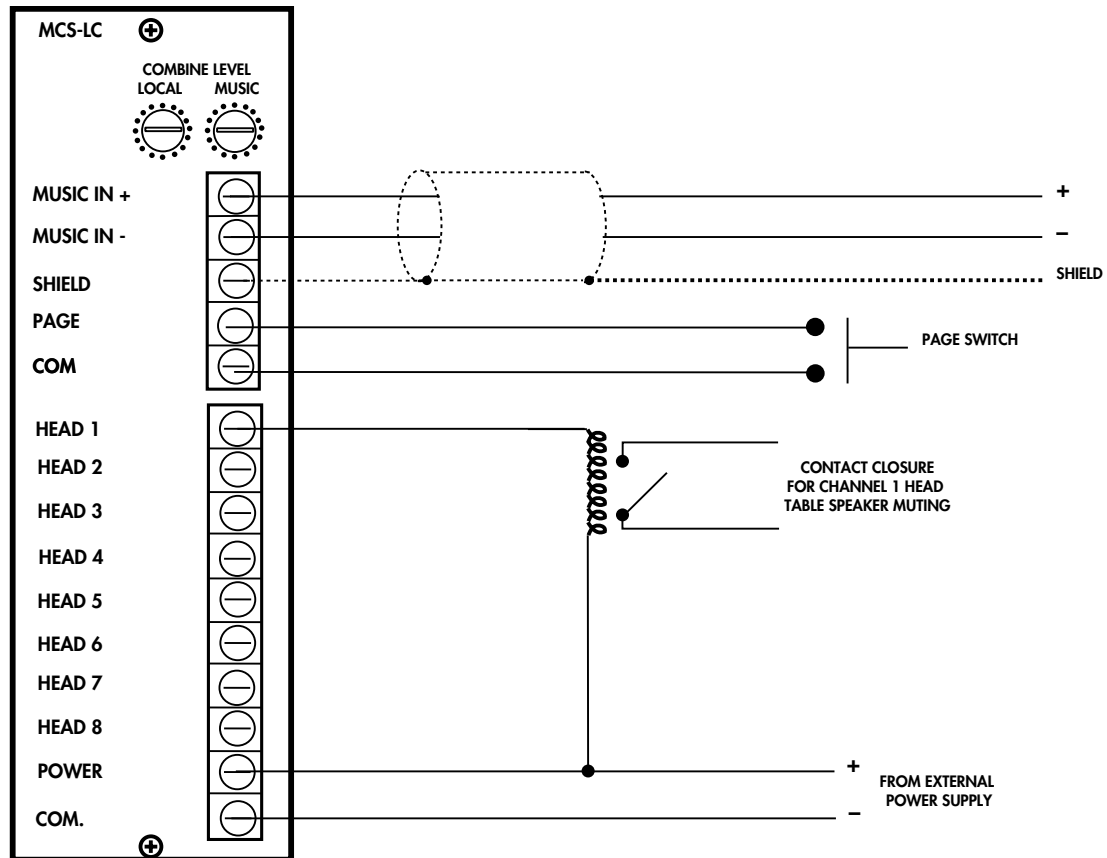

Figure 2.4: MCS-LC Logic Card Connections
(Refer to Figure 2.4)
3. **HEAD 1 through HEAD 8.** Figure 2.4 illustrates the proper wiring of a HEAD-Table speaker muting relay and its power supply. HEAD 1 through HEAD 8 provide open-collector outputs to activate the relays. An output is toggled on or off by each closure of the corresponding momentary switch across the HEAD-TABLE terminals of the MCS-IB Interface Box.